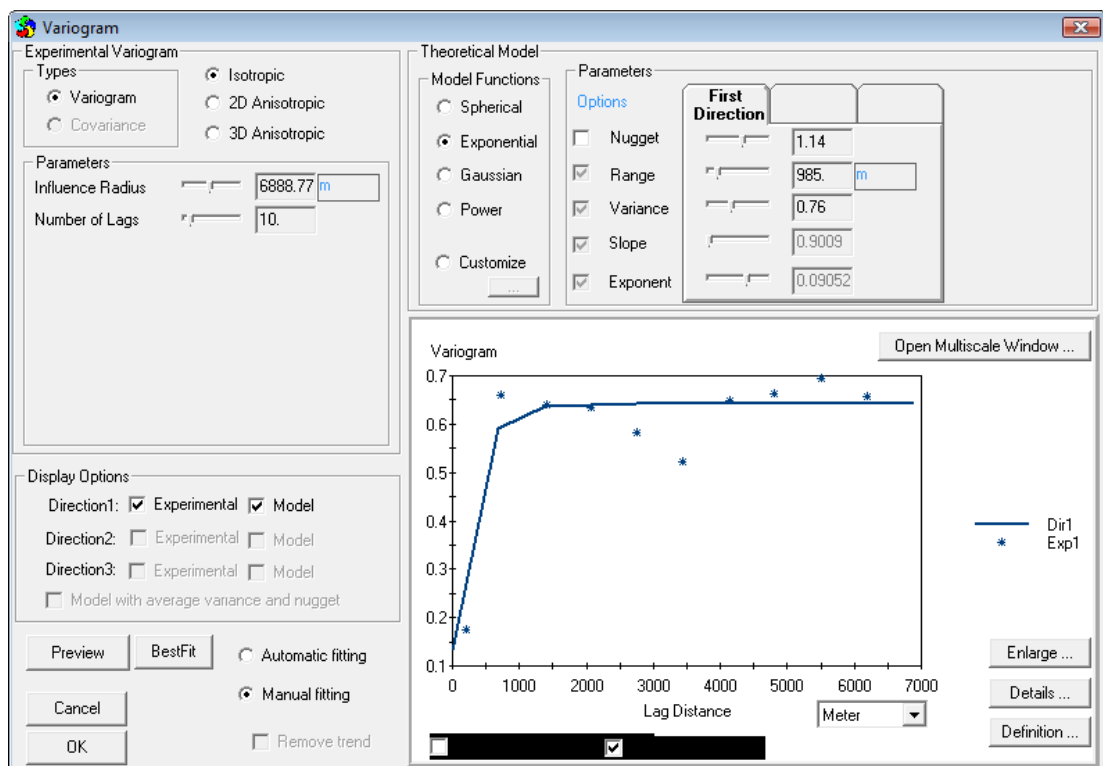

Figure 18-7 Variogram window
- In the ‘Variogram Model’ area, if ‘Infer from Data’ button is checked and then the ‘Edit’ button is clicked, the ‘Variogram’ window (**Figure 18-7**) will appear. Here the user can select/built a variogram model based on data. When satisfied with variogram model, click OK. Statistical parameters of the variogram model are automatically assigned to the unconditional simulation. Please refer to **Section 20.4** for more on variogram modeling.